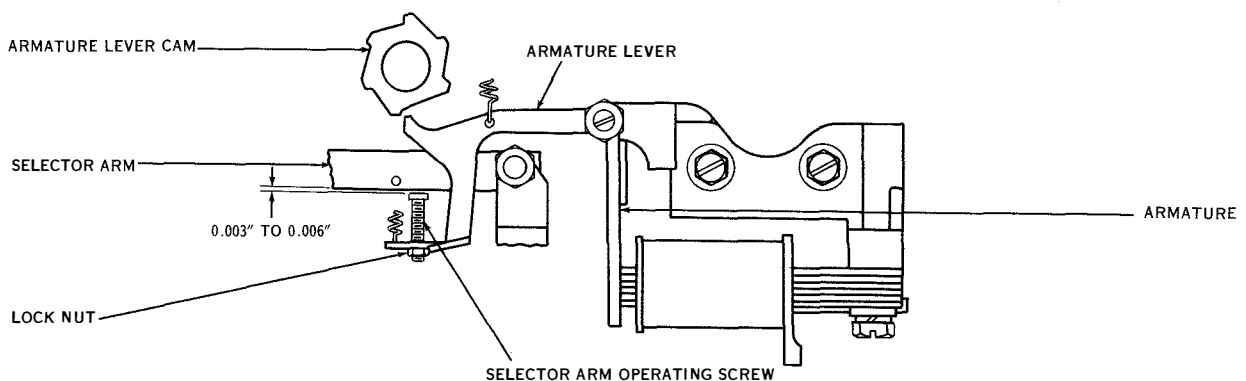

Figure 7-32. Selector Arm Operating Screw
(19) **SELECTOR ARM OPERATING SCREW.** (See figure 7-32.)—There should be a clearance of 0.003 to 0.006 inch between the selector arm operating screw and selector arm. To check, energize the selector magnet and rotate the selector cam sleeve until the armature lever is opposite an indent of its cam. To adjust, position the selector arm operating screw with its lock nut loosened.